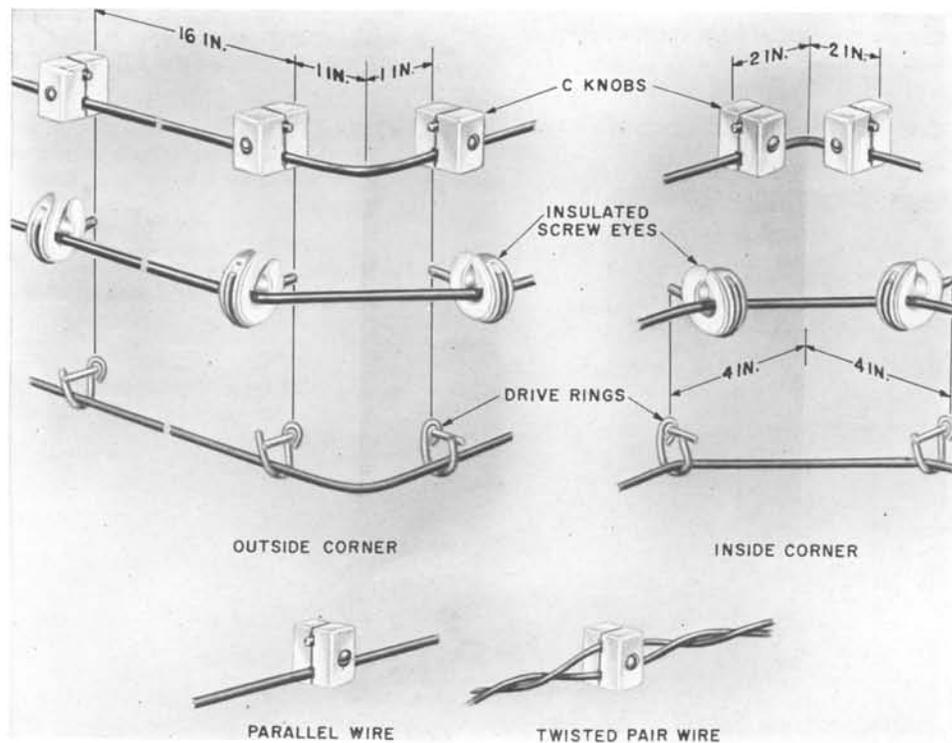

FIG. 15—FASTENING DROP AND BLOCK WIRE INSIDE OF BUILDINGS
**6.02** Methods of fastening drop and block wires at exposed stations between the point of entrance and the protector are shown in Fig. 15.